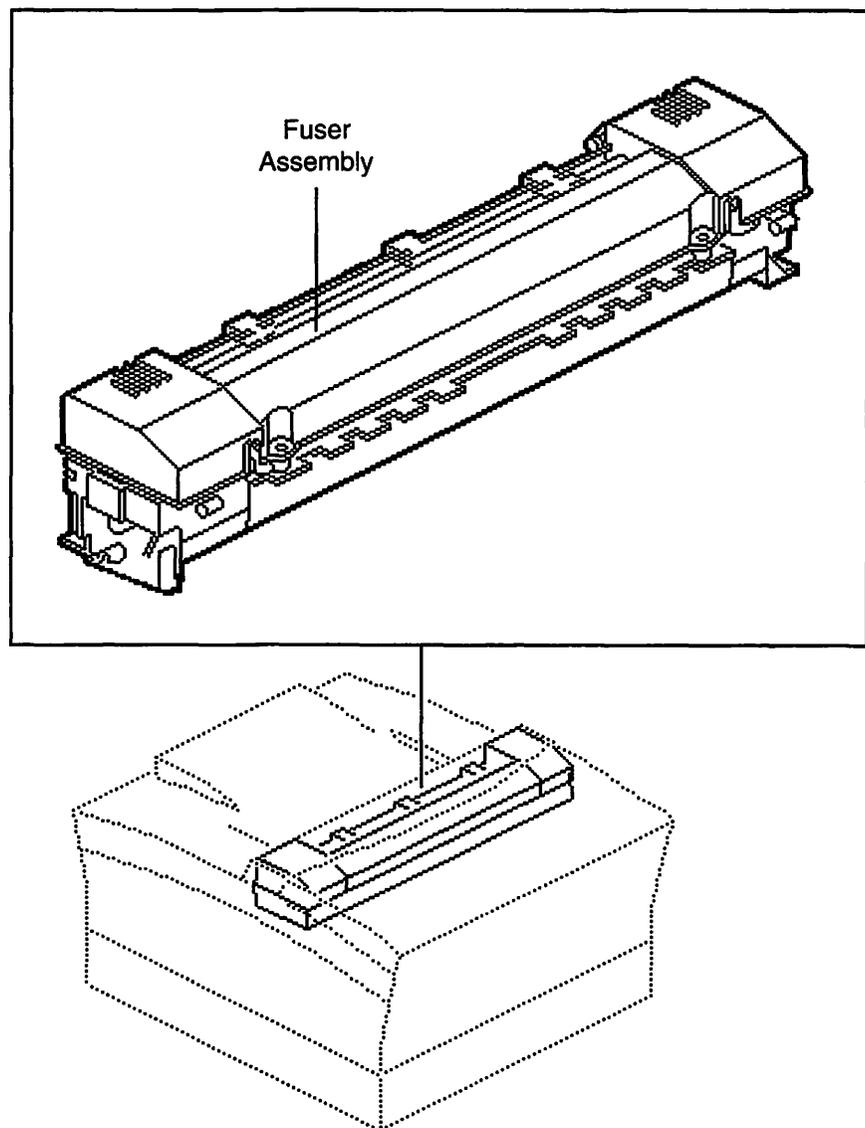

Figure 1-19
- The fuser assembly (see Figure 1-19) applies pressure and heat to the printed page after it leaves the photosensitive drum, fusing the toner image onto the paper. The fuser assembly includes the thermistor, the thermostat fuse, the heater bulb and the pressure rollers (identified in the LaserWriter Select "Parts" chapter on *Apple Service Source*). The thermistor communicates temperature information to the DC controller. During printer warm up, the temperature is 150° C/302° F. During printing, the temperature is 160° C/320° F.